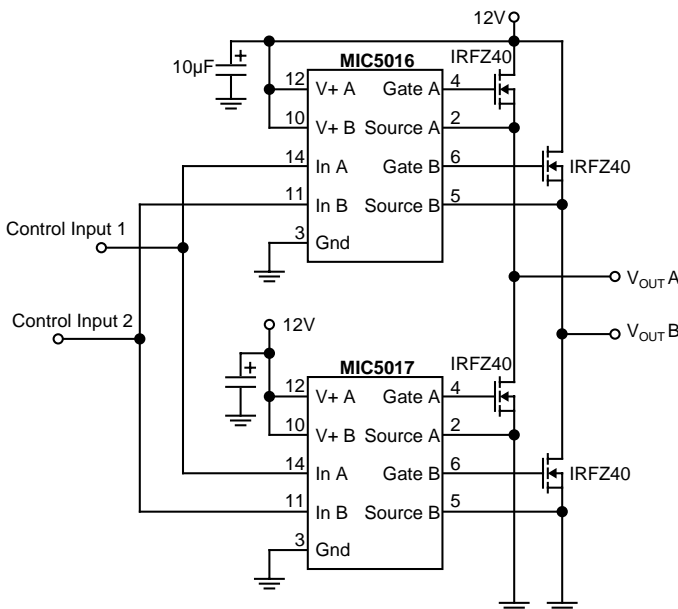

Figure 13: Push-Pull Driver
**Push-Pull Driver With No Cross-Conduction** (Figure 13) As the turn-off time of the MIC5016/17 devices is much faster than the turn-on time, a simple dual push-pull driver with no cross conduction can be made using one MIC5016 and one MIC5017. The same control signal is applied to both inputs; the MIC5016 turns on with the positive signal, and the MIC5017 turns on when it swings low.